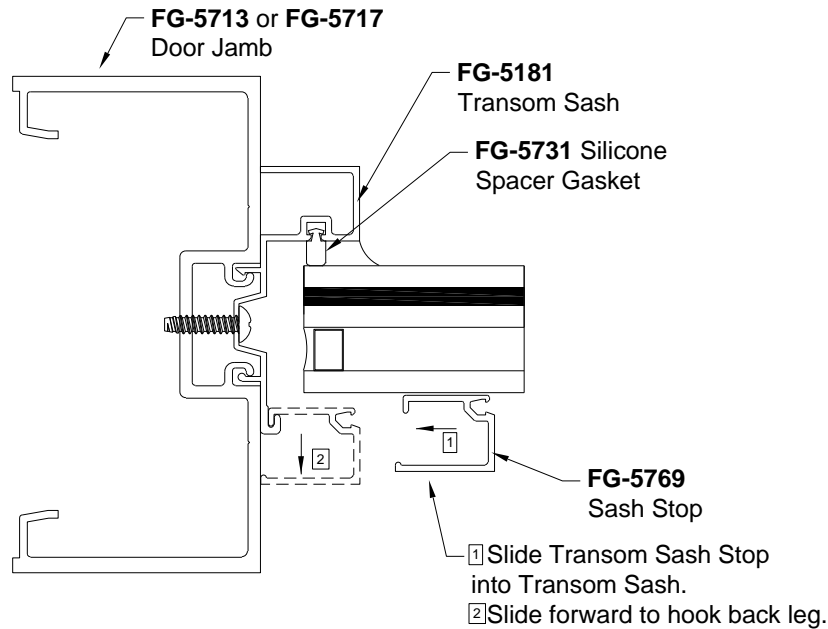

Figure 28: Level E Transom Sash Stop Installation
- 12.7.2 Install the Sash Stop. FG-5769 Sash Stop installation is shown in Figure 28.